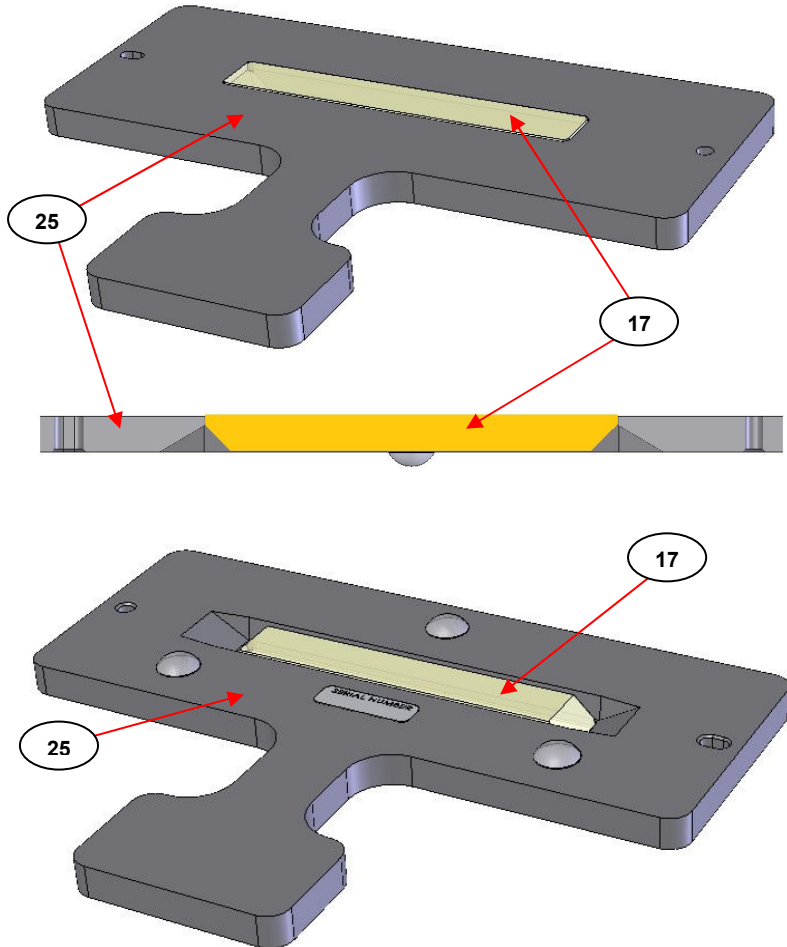

Fig 9. Gateway™ ATR Accessory Flat Top Plate Assembly, Top, Side (Cross Section) and Underside Views
The flat (4) top plate assembly is shown for its top, side (cross section) and underside views in **Fig 9**.